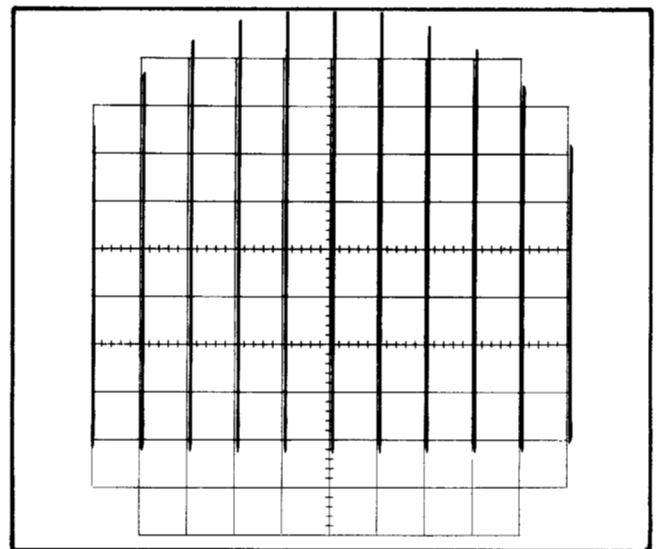

Fig. 5-6. ISOLATION SHIELD and INTERGUN SHIELD properly adjusted.
6. Set 'B' VARIABLE TIME/DIV. and upper beam horizontal POSITION so there is one vertical display line under each major graticule line. The display should be similar to that shown in Fig. 5-6.
7. Check the vertical display lines near the right and left edges of the graticule. The lines should be reasonably straight and parallel to the graticule lines as shown in Fig. 5-6. Also check that the display extends at least 4 major divisions below the upper graticule centerline.